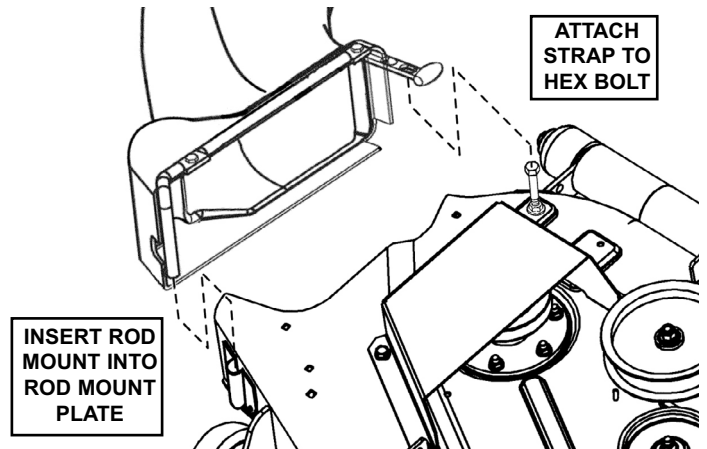

FIGURE 7
STEP 6: Install the bag adapter to the deck by inserting the mount rod on the adapter into the rod mount plate on the deck. Then attach the strap on the adapter to the shank of the hex bolt on the deck installed in Step 4a. See Figure 7.